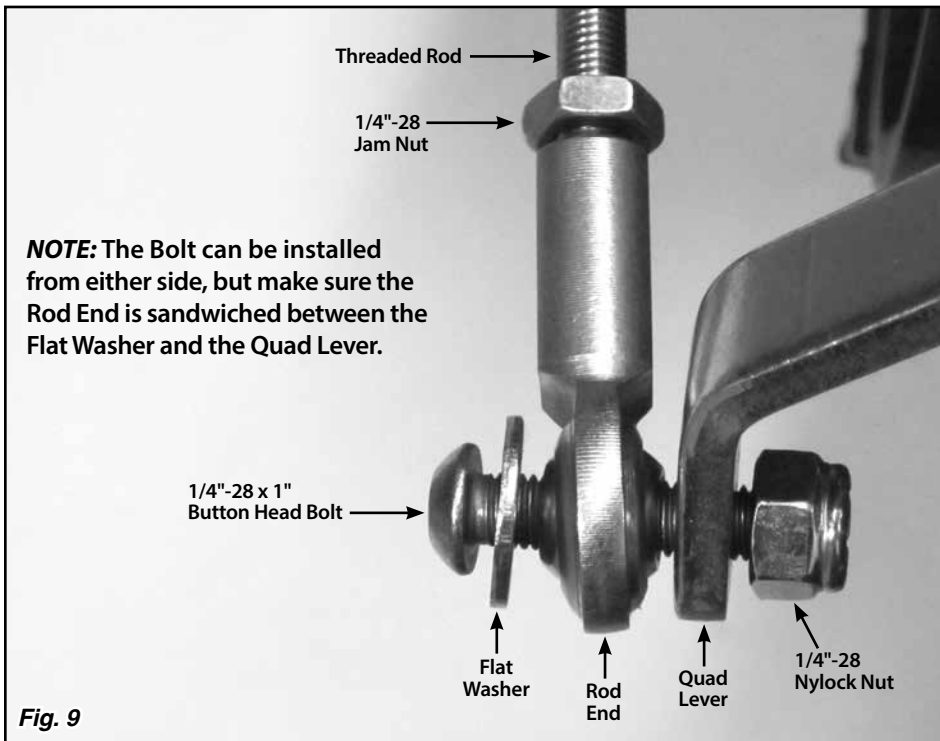
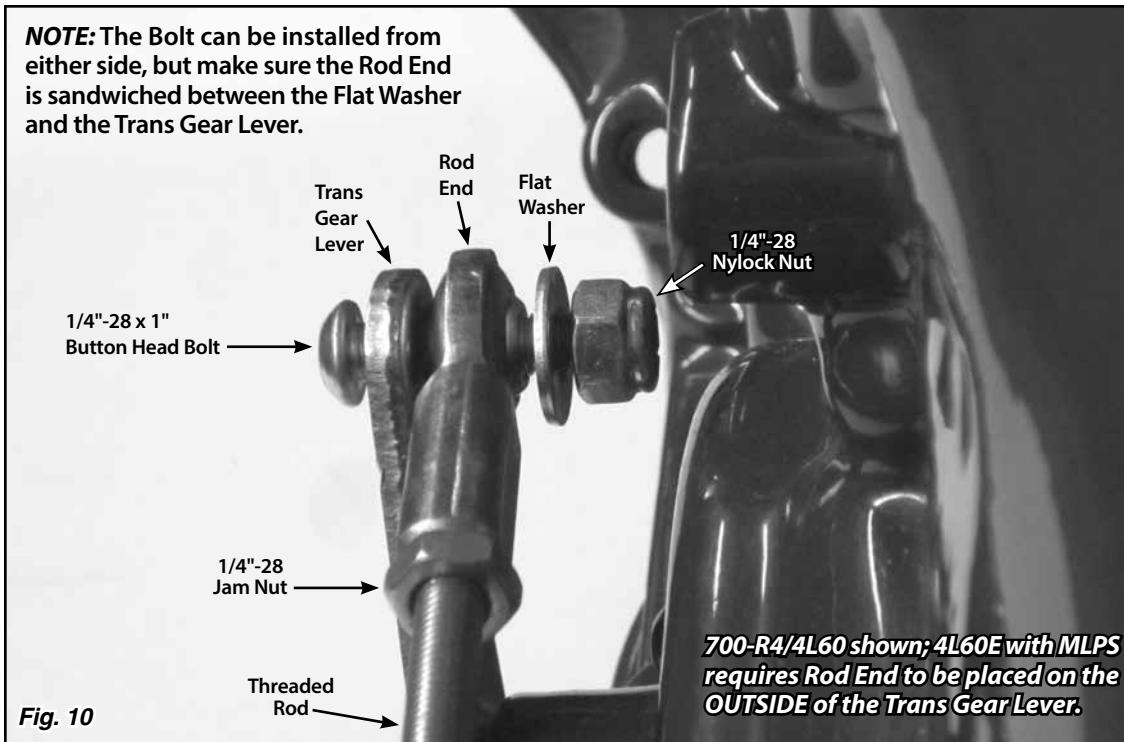

Fig. 9
Fig. 10
**Step 14:** Verify that both 1/4"-28 jam nuts are on the threaded rod, and install a rod end onto each end of the threaded rod. Attach the threaded rod assembly to the **inside** of the trans gear lever (**EXCEPT** 4L60E with MLPS, rod end must go on **outside** of trans gear lever) and to the **outside** of the quad lever using the 1/4"-28 x 1" button head bolts, flat washers, and nylock nuts as shown in **Fig. 9** and **Fig. 10**. The button head bolts can be installed from either direction, but make sure the rod end is sandwiched between the flat washer and the trans gear lever or quad lever.